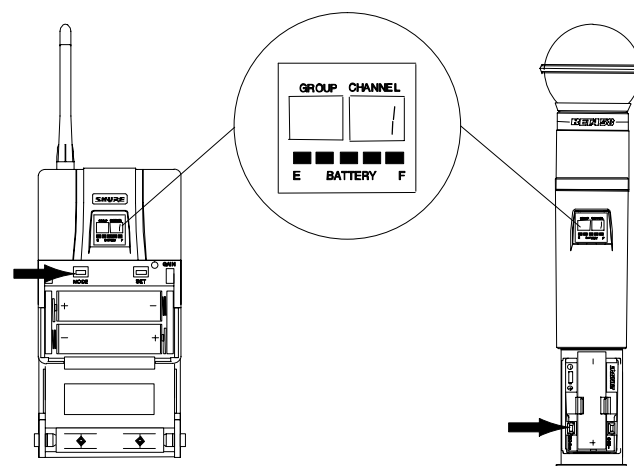

FIGURE 40
- Press the MODE button again so that only the Channel number is displayed, as shown in Figure 40.